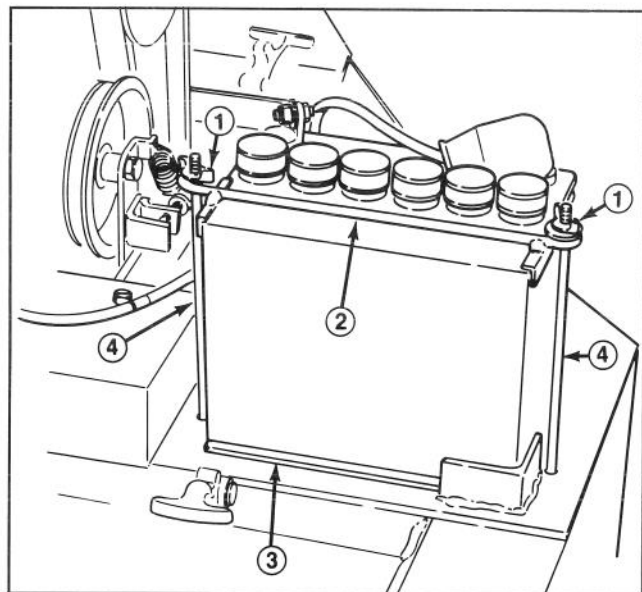

Figure 11
3. Remove wing nuts securing battery clamp and support rods and remove battery from machine. Remove filler caps from battery and slowly fill each cell until electrolyte is just above the plates (Fig. 11).
1. Mount battery on battery pad with terminal posts forward (Fig. 11).
2. Secure battery with clamp, support rods and wing nuts (Fig. 11).
3. Install the positive cable (rubber boot over end) to the positive (+) terminal and the negative cable (black) to the negative (—) terminal of the battery and secure with carriage bolts, lockwashers and nuts. Slide the rubber boot over the positive terminal to prevent possible short-out from occurring (Fig. 11).